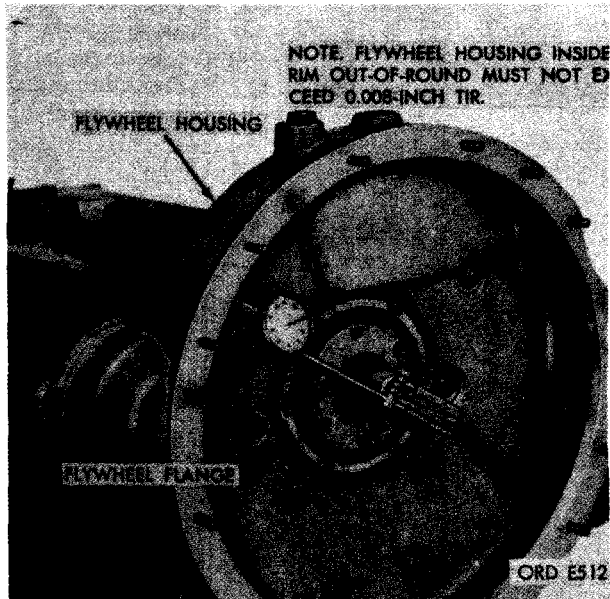

FIGURE 476. CHECKING FLYWHEEL HOUSING INSIDE RIM FOR OUT-OF- ROUND.
e. Check Flywheel Housing Inside Rim for Out-of-Round Condition. Figure 476. (A) Mount dial indicator on crankshaft flywheel flange so indicator point rests on inside rim of flywheel housing as shown. (B) Set indicator to zero reading ("0"). (C) Rotate crankshaft 360 degrees and check out-of-round.